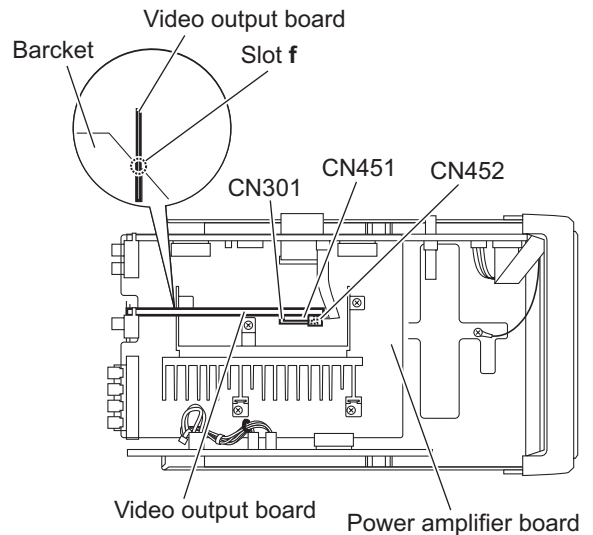

Fig.16
3.1.7 Removing the video output board (See Fig.16)